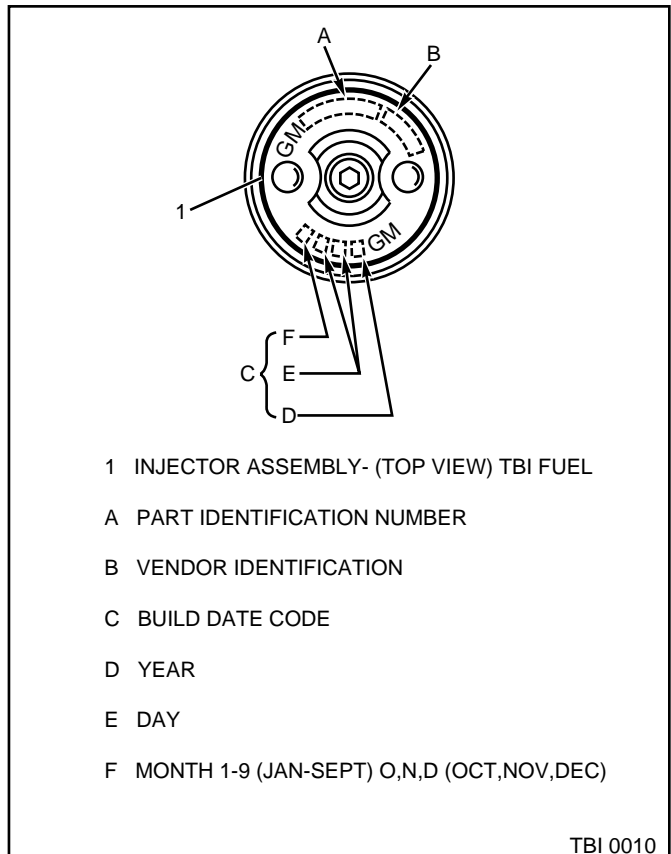

Figure 3-17 - Fuel Injector Part Number Location
- ī Be sure to replace the injector with one having an identical part number. Injectors from other models can also fit in the TBI unit, but are calibrated for different flow rates. (Refer to Figure 3-17 for part number location).